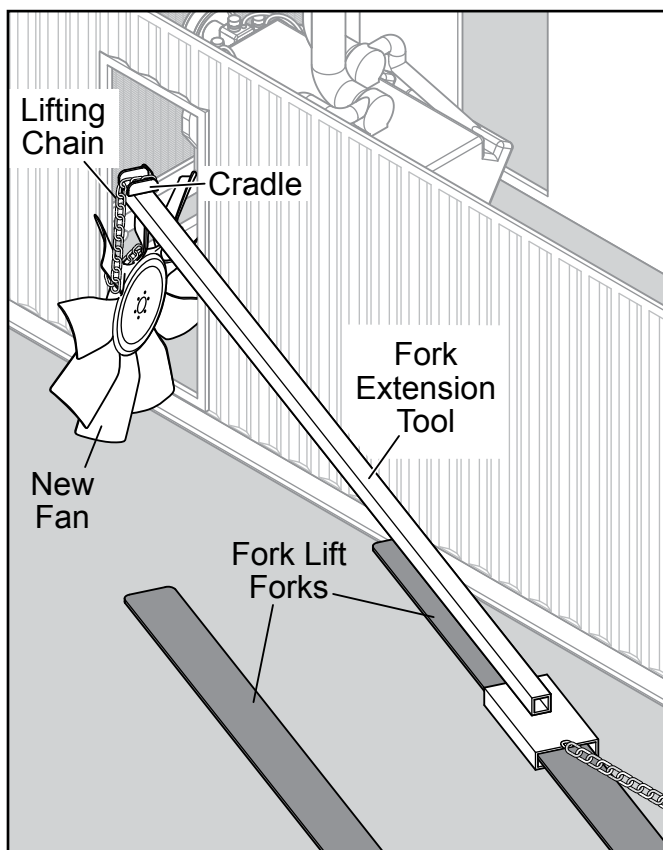

Figure 10. Installing Fan on the Fork Extension
4. Install the fork extension tool to the fork lift at least midway through the fork. Install a lifting chain or strap to the fan and hang the chain on the cradle of the fork extension tool. See Figure 10.
5. The fork lift needs to be at an angle from the door in order to get the correct positioning. See Figure 10.